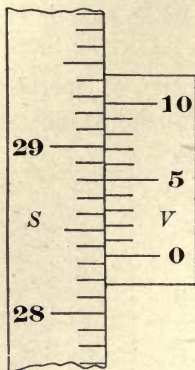

FIGURE 295.—ENLARGED DRAWING OF THE VERNIER OF A BAROMETER.
Figure 295 shows an enlarged drawing of the scale (*S*) and the vernier (*V*).
with a mark on the scale (S). In the figure it is 5 on the vernier. (It makes no difference which one on the scale.) This determines the next figure to be annexed to the scale reading, which makes the completed reading. Thus the reading in Figure 295 is 28.3 with 5 annexed, or 28.35''.